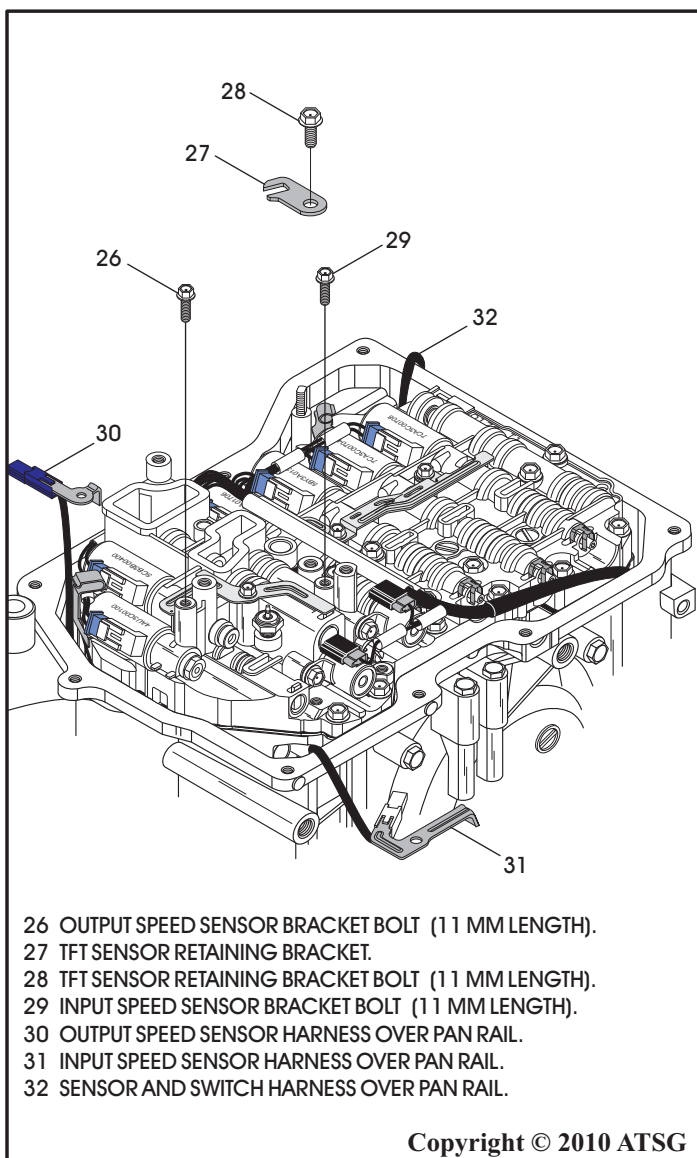

Figure 201
77. Install the output speed sensor "blue" connector to valve body, as shown in Figure 201, torque the retaining bolt to 7 N·m (62 in.lb.).
78. Install the input speed sensor "white" connector to valve body, as shown in Figure 201, torque the retaining bolt to 7 N·m (62 in.lb.).